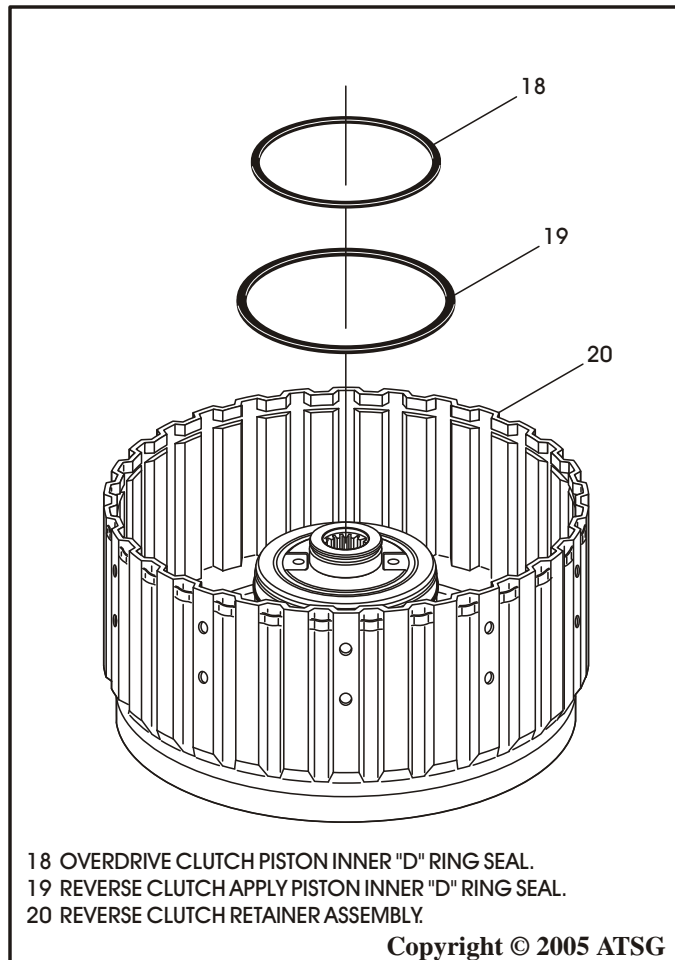

Figure 77
4. Install new inner piston "D" ring seals into the grooves in reverse clutch retainer assembly, as shown in Figure 77, and lube with a small amount of Trans-Jel®.